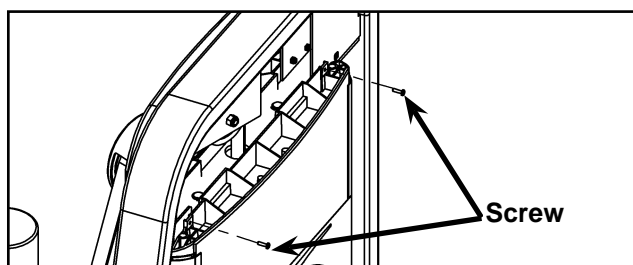

Figure 4
- G. Remove the top two screws securing the back shroud assembly. See Figure 4.